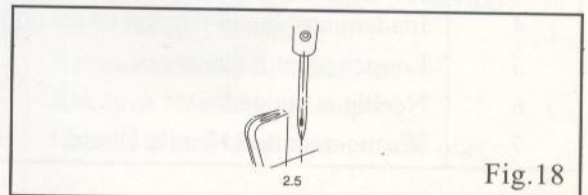

Fig.18
#### (6) Chain Loooper and Needle Fig.18